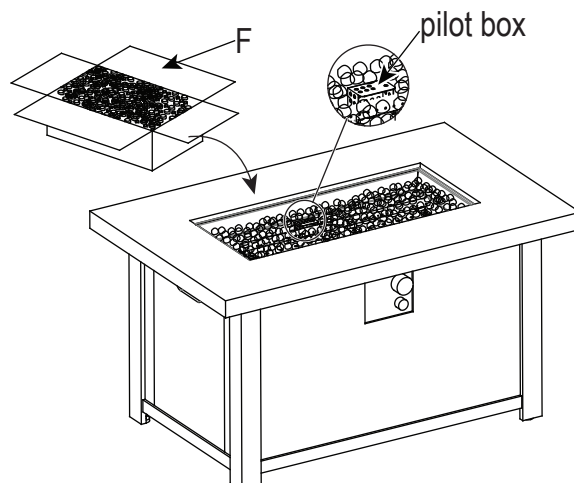

Figure 2
2. Open the box of lava rocks, put the lava rocks (F) into the fire bowl of the fire table, (see Figure 2). A gas fire pit requires 13.2 lbs lava rocks.